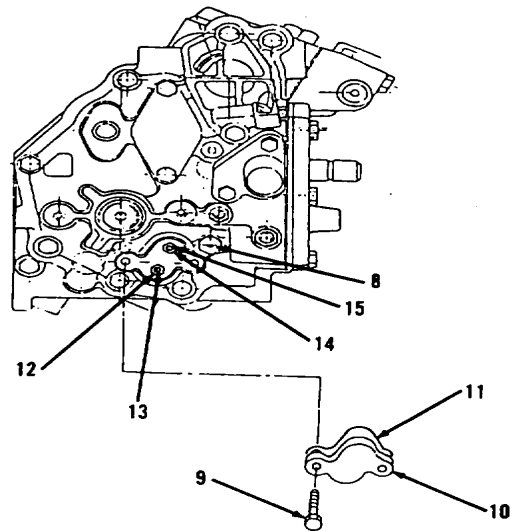

Figure 3-106.
2. Connect lamp tester to insulator contact (8, Figure 3-106) and ground.